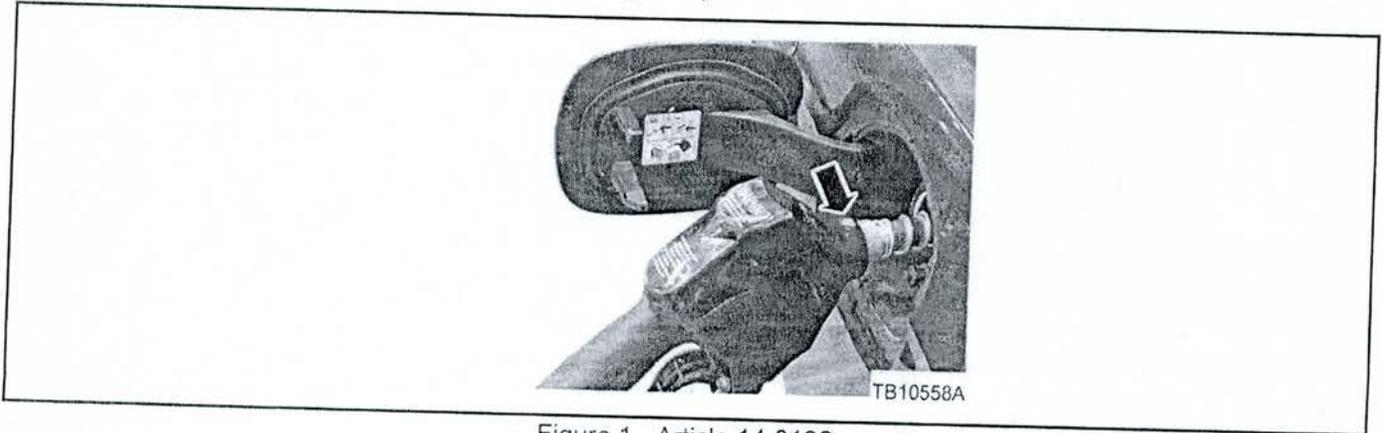

Figure 1 - Article 14-0132
- a. Yes - Remove the single hex head set screw at the base of spout near the handle cover. Twist and pull the nozzle handle to separate from the spout. Once the fuel nozzle handle is separated from the spout, the fuel tank filler pipe can be replaced. Refer to WSM, Section 310-01. (Figure 1)